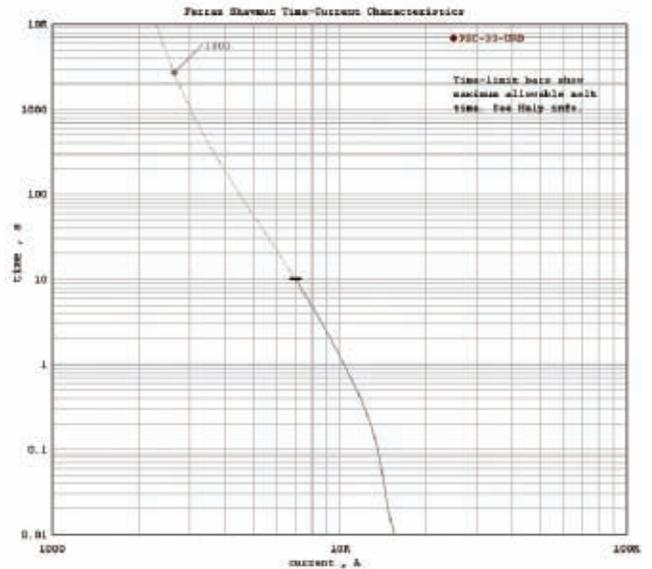

Fig. 3 – Fuse (750kVA) – 1800A
**Single 750kVA UPS Module (1800A fuse) – will support 3500A for at about 100 seconds (Fig. 3)**